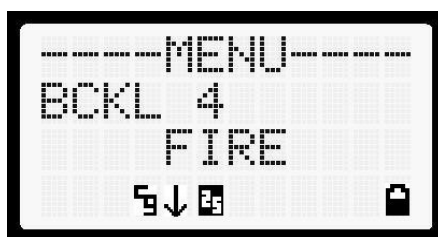

Figure 7-8: Backlight Menu Display
- Press **[M]**. The backlight menu item is activated. Line one shows the active menu item and its current parameter setting. Line two shows the currently selected system or group name (see Figure 7-8).